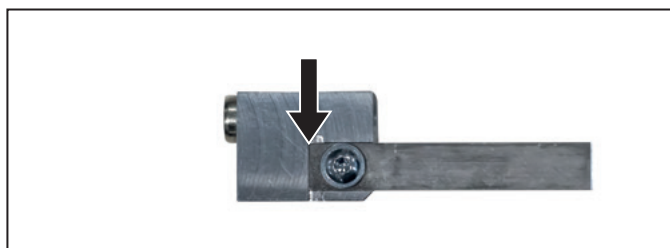

Figure 8.4 Exchanging the ferrule separating blade
- Exchange the blade for a new one. Ensure the new blade is inserted correctly and flush, see Figure 8.4.